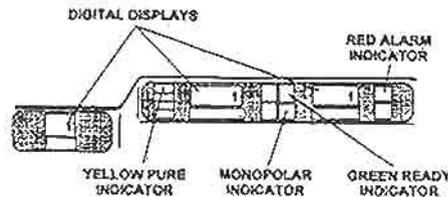

Figure 2-17. Ready mode.
- b. Observe the control panel (fig 2-17) and verify the following actions: